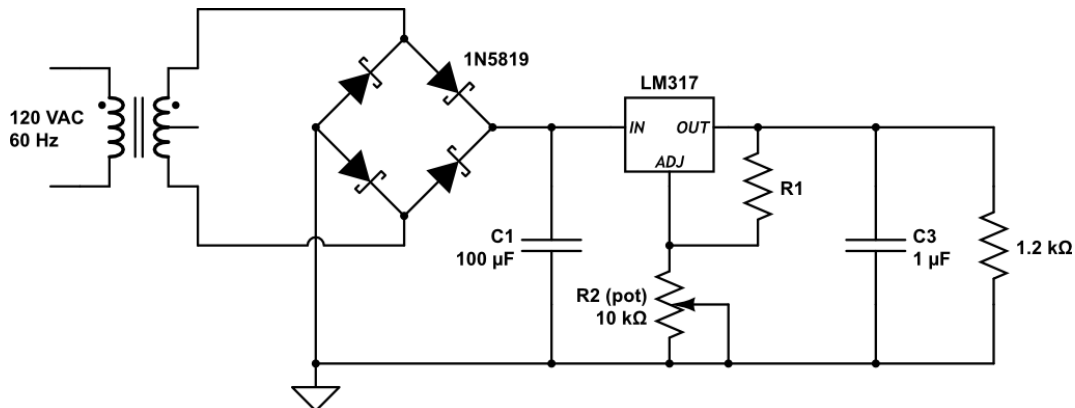

Figure 8: Adjustable regulated DC power supply
- Using the value you determined for R1, construct the circuit shown in figure 8.